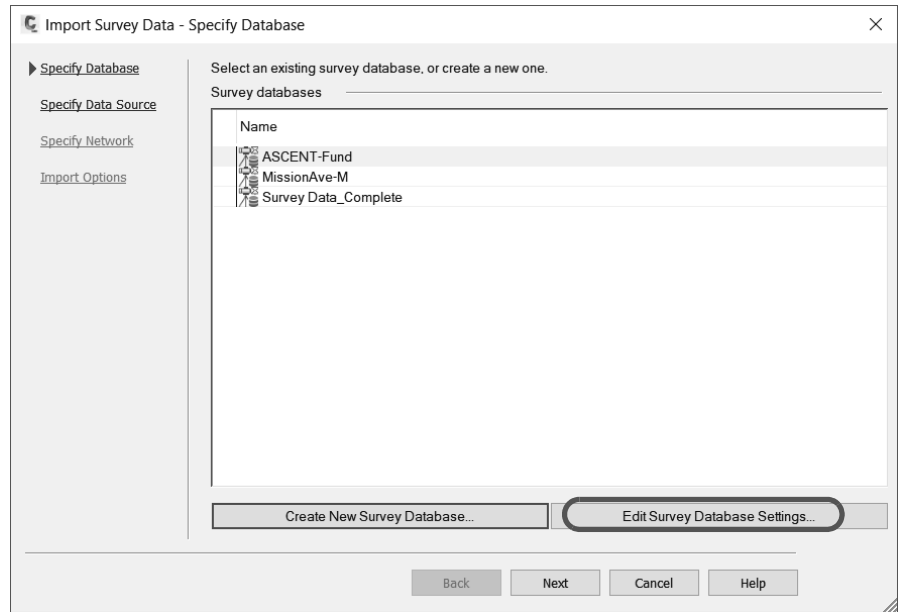

Figure 2–74
- 8. Under *Units* in the Survey Database Settings dialog box, for the *Coordinate Zone*, click the **Browse** icon. In the Select Coordinate Zone dialog box, select **NSRS 2007 California State Planes, Zone VI, US Foot** (as shown in Figure 2–75). Click **OK** twice and then click **Next**.